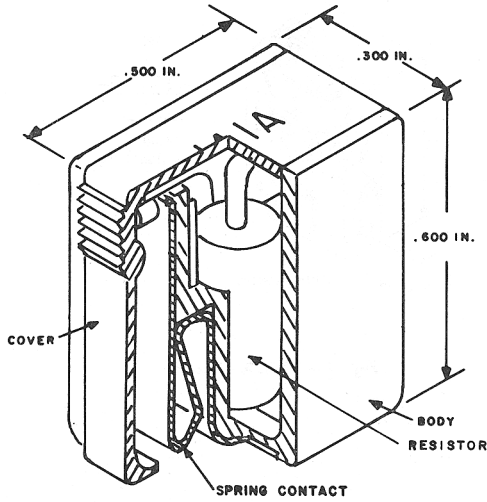

Fig. 5—141A Protector
4.01 The 141A protector (Fig. 5) consists of 68,000 ohm, 1/2-watt resistor in a blue molded assembly. The dimensions of the protector are 6/10-inch by 1/2-inch by 3/10-inch, and it is designed to be installed on 66-type connecting blocks having quick-connect terminals.